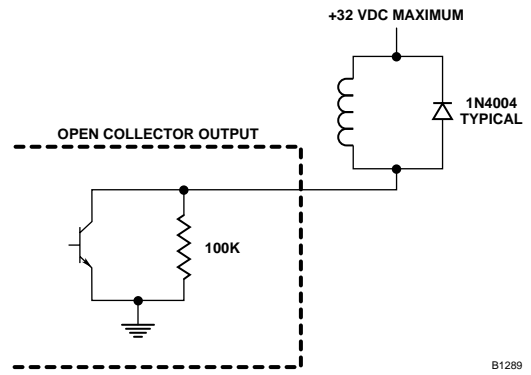

Figure 13—Open Collector Output with Inductive Load and Transient Suppression Device
Base Controller – Connections to open collector transistor outputs are made at terminals 10, 12, 14, and 16. Terminals 9, 11, 13, and 15 are not used. See Figure 13 for an example of a typical connection to an open collector transistor output.
*External equipment that can generate transients when switching (such as relays) **must have a transient suppression device (diode)** connected across the coil at the time of installation. (Note proper polarity of the diode.) This will safeguard the output transistors of the controller against possible damage. Figure 13 illustrates an inductive load with a diode used for transient suppression.*